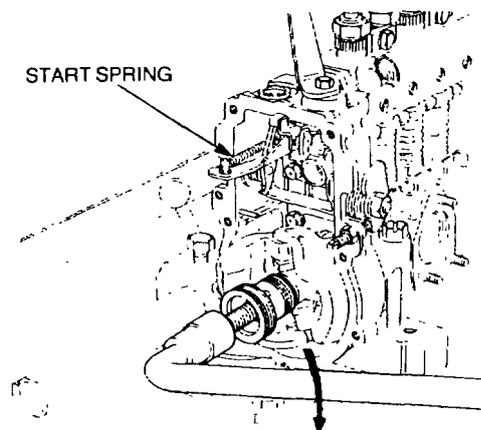

Figure 67 Removing the Flyweights
- m. Position the extractor (Table3, Serial 24) in the flyweights and remove the flyweights from the camshaft (Figure 67).